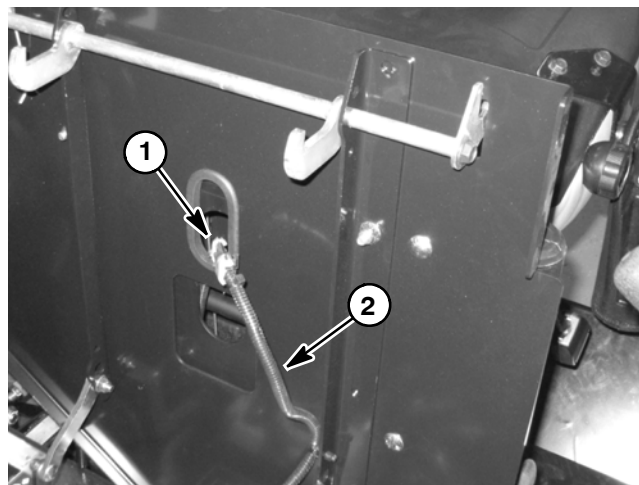

Figure 15
The seat switch is normally open and closes when the operator is on the seat. If the traction system or PTO switch is engaged when the operator raises out of the seat, the engine will stop. The seat switch and its electrical connector (Fig. 15) are located directly under the seat.
B. Disconnect machine wire harness electrical connector from the seat switch harness electrical lead under the operator seat (Fig. 15).